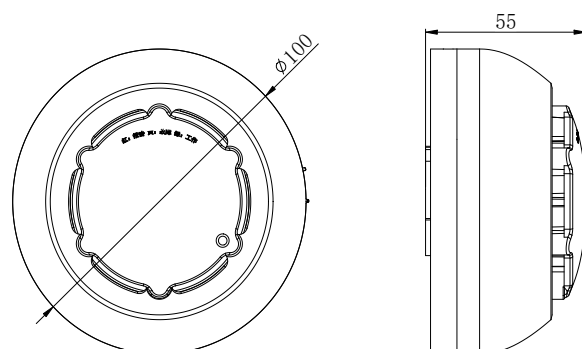

Figure 1 Schematic diagram of the shape of the detector
1. The outline diagram of the detector is shown in Figure 1.